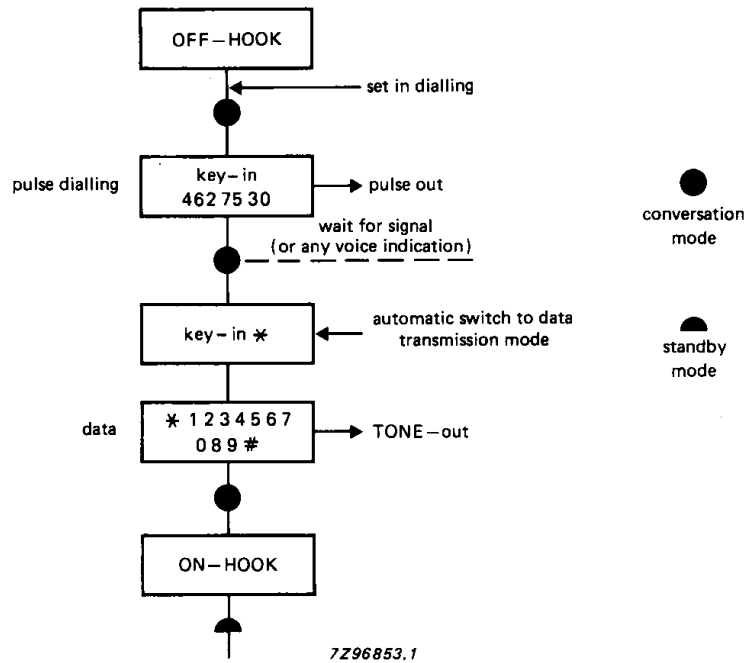

Fig. 5 Pulse and data transmission mode.
**DIALLING PROCEDURES** (see also Figs 5 and 6)